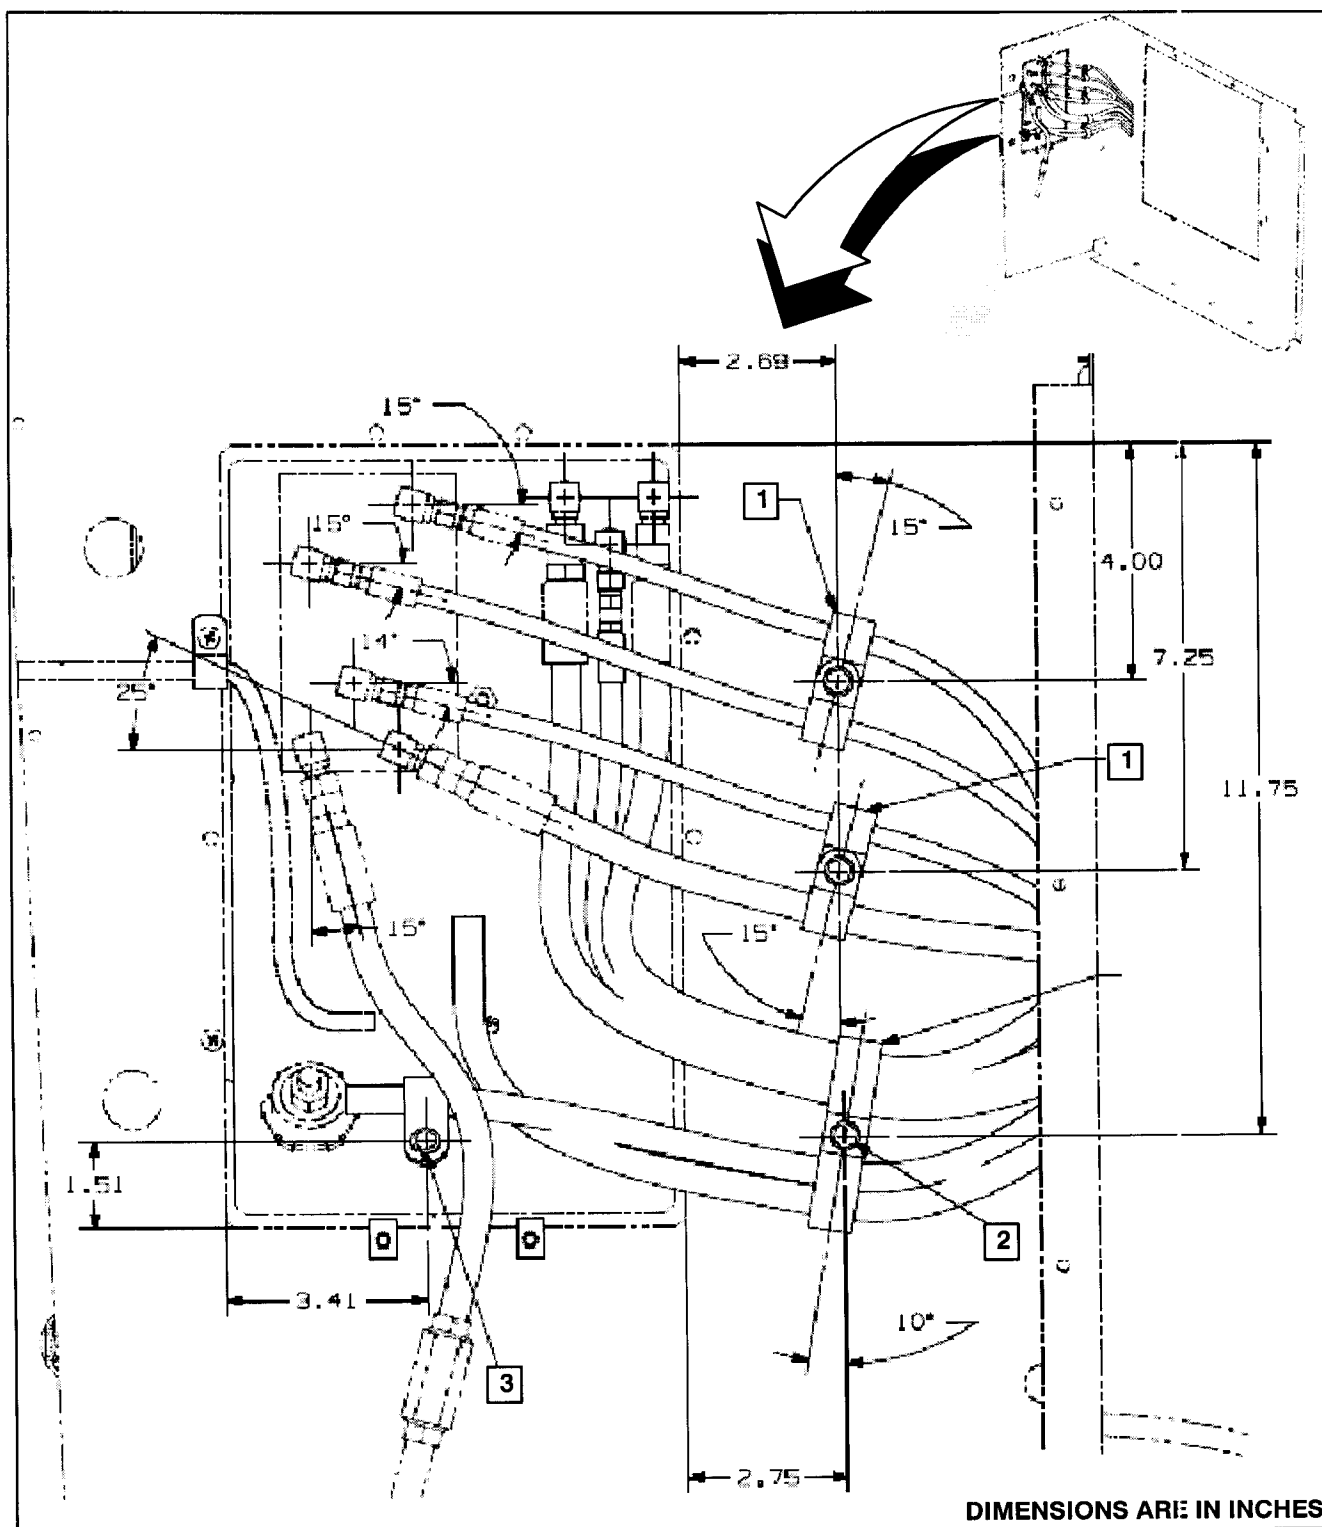

Figure 1.
5. Locate the fittings shown in Figure 1. Orient the harnesses and cables as shown in Figure 1.
6. Using a 13/64 inch drill bit and a drill bit stop (set to the width of the compartment wall), drill three (3) holes at the dimensions shown in Figure 1.
ITEM	FIGURE 1 DESCRIPTION
7. Install the clamps, p/n 19-4-32, and, p/n 19-4-48, on the hoses as shown in Figures 1 and 2. Using screws, p/n 19-4-176, and nut, p/n 19-3-2, secure the clamps to the compartment wall.
8. Using a 11/64 inch drill bit and a drill bit stop (set to the width of the compartment wall), drill a hole at the dimensions (1.51 x 3.41) shown in Figures 1 and 5. Secure the existing clamp to the compartment wall using screw, p/n 19-1-619, and washer, p/n 19-2-7.